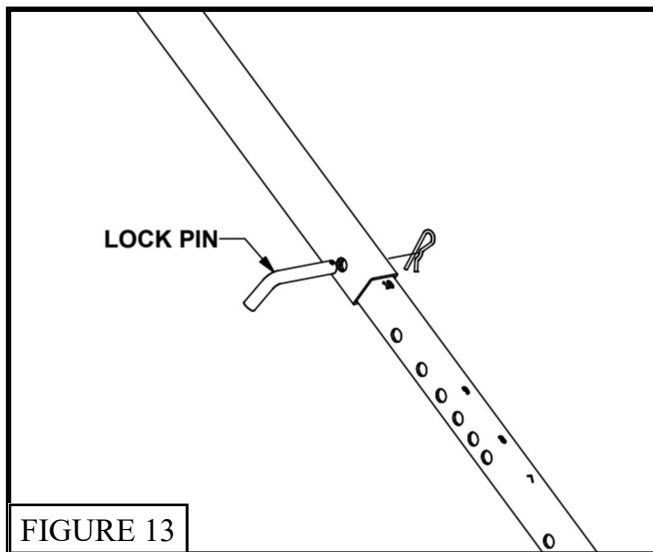

FIGURE 13
21. To adjust goal playing height remove rim height lock pin and raise or lower to desired height and reinstall rim height lock pin. The distance from the front of the backboard to the front of the base decreases as the rim is lowered. See Figure 13.